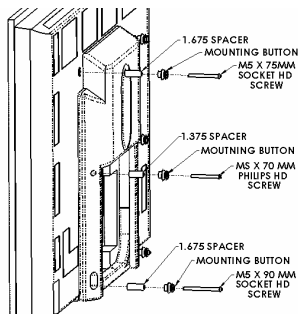
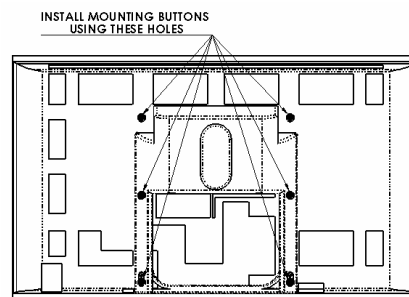

Figure 8
Figure 9
5. Using M5 screws and nylon spacers, install mounting buttons on back of display (See Figure 8 & Figure 9). **Proceed to step 7 (page 3).**